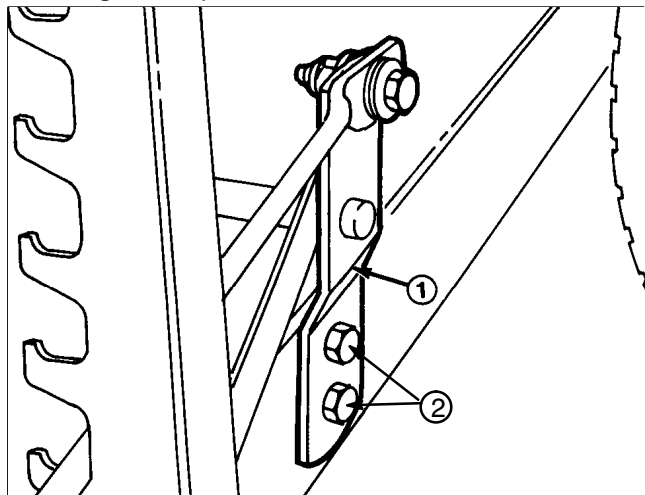

Figure 29
5. If blade tip height is not within 1/8 inch (3 mm), level cutting unit by loosening height-of-cut support bracket capscrews and raising or lowering the bracket (Fig. 29).